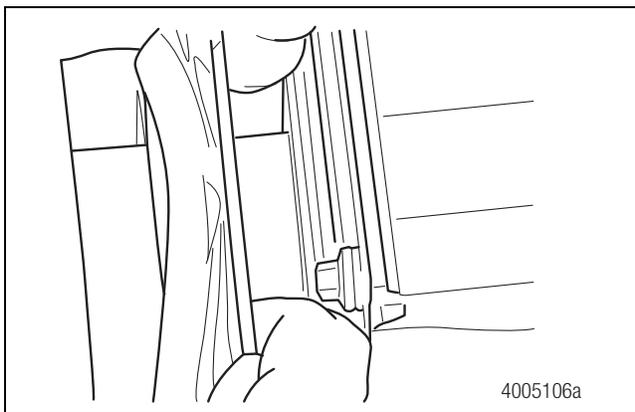

Figure 5.15
10. Use two fingers to stretch the piston boot and pull it over the housing assembly retainer groove. Figure 5.15.